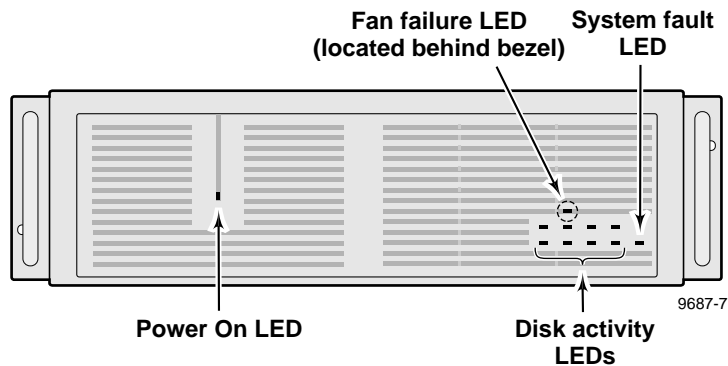

Figure 3-2. PDX218 Front Panel Indicators
- Check the indicators on the front panel (Figure 3-2) which provide information to assist in fault isolation.
Refer to Figure 3-2 in the following discussions.